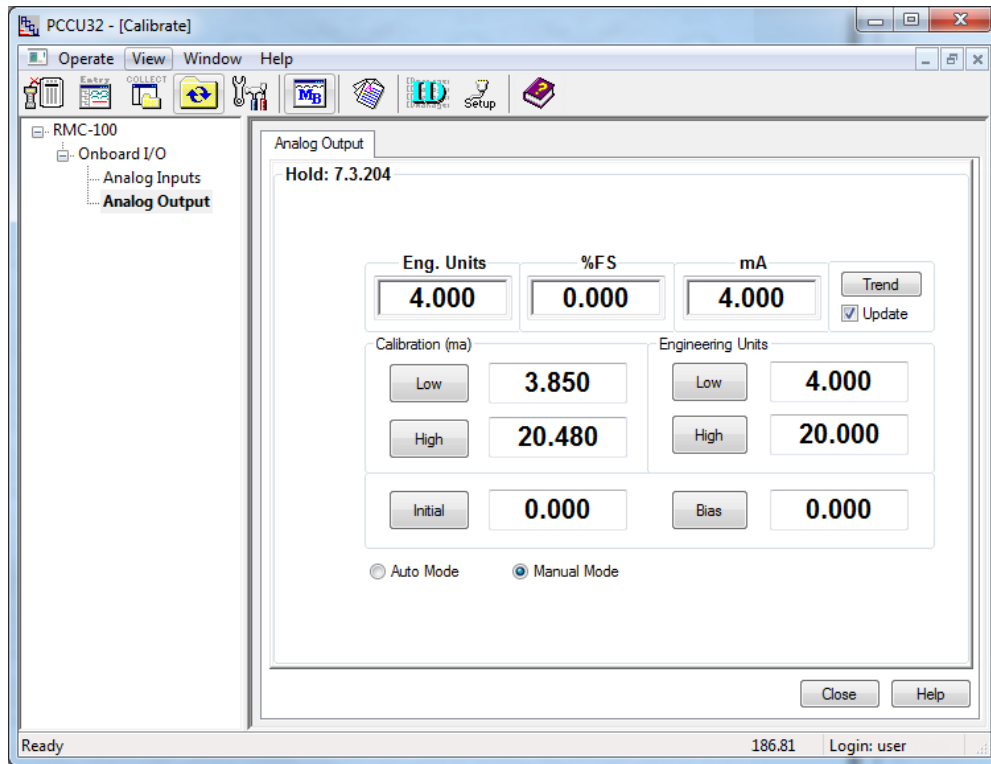

Figure 67: Analog output manual mode
5. Click the **Manual Mode** radio button (Figure 67).